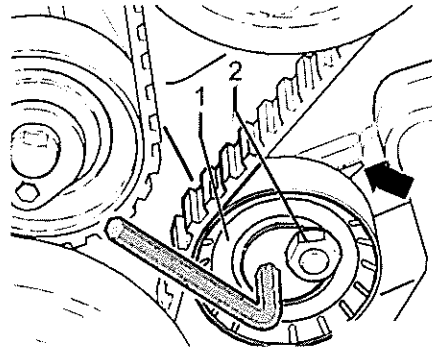

Fig 40 Idler pulley
174 Refit the drive sprocket for the injection pump (see Fig 40 (1)).